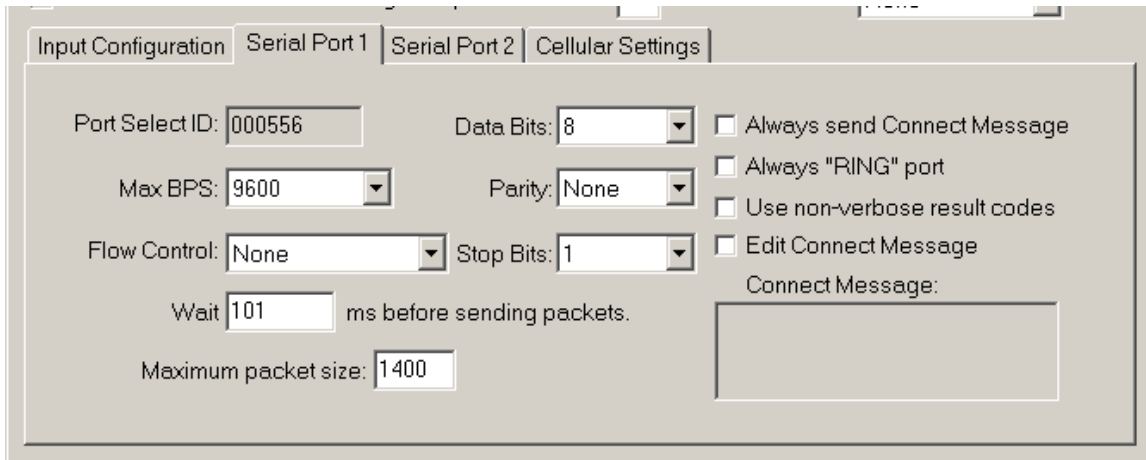

Figure 27 – CNI Configuration – Serial Ports
5. The Serial Port 1 and Serial Port 2 tabs are where you configure the settings for each port so the CNI can communicate with your device. If you are experiencing problems communicating with your device, check these settings as well as the device settings. The configuration pages for each port are identical and the defaults are shown in Figure 27. Note that each serial port should have a unique RUID to distinguish between each device connected to the CNI.